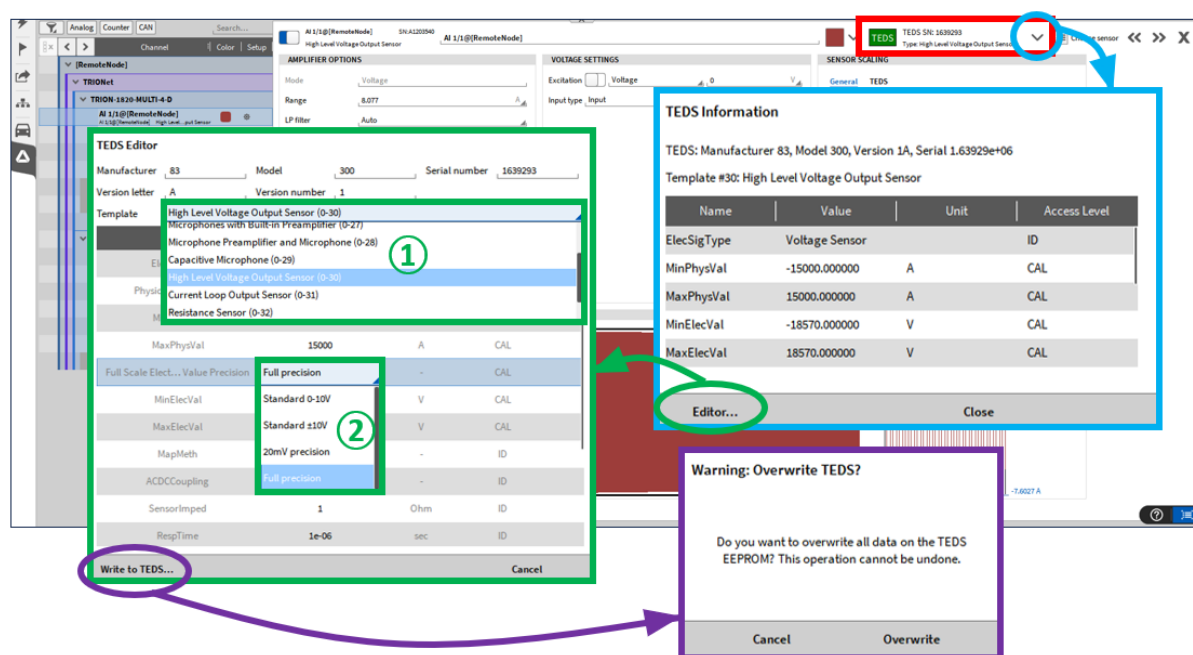

Fig. 7.219: Detailed Channel Settings with TEDS interface and TEDS editor
A detailed channel setting can be seen in Fig. 7.219. Depending on the type of sensor some settings might vary. The settings from the TEDS can be seen here and some settings can be adjusted manually, like the range. By clicking on the shown TEDS serial number, marked red in Fig. 7.219, all the TEDS information and settings can be seen (see blue frame in Fig. 7.219).
By clicking on "Editor" (see green circle in Fig. 7.219) the TEDS editor can be opened (see green frame) which offers the possibility to edit the stored data on the TEDS chip. It is possible to choose between a set of templates (see ① in Fig. 7.219) or to change the information stored on the TEDS chip manually (see ② in Fig. 7.219). When all changes are finished the information can be written to the TEDS chip, by clicking on "Write to TEDS" (see purple circle in Fig. 7.219). A window will pop up which asks for confirmation that the data should be written to the TEDS chip.
TEDS detection can also be disabled in the detailed settings by clicking on the green TEDS button (marked green in Fig. 7.219). This button has different colors depending on the state, which will be explained here: